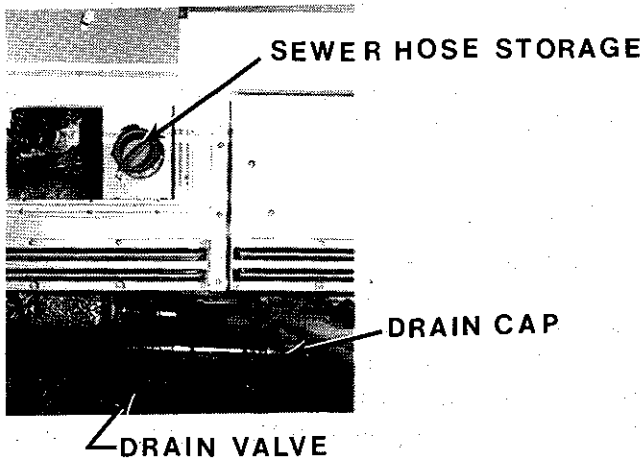

Figure 5-4. Location of Holding Tanks Drain Valve
2. Remove the safety cap from the single discharge connection by turning the locking ring in a counter-clockwise direction and connect the 3-inch sewer hose coupling to the end of the valve. Tighten locking ring securely, in a clockwise direction. The sewer hose is stored within a tube accessible through a compartment door located above the drain cap, figure 5-4. Place the discharge end of the hose into the sewer connection and check that all connections are secure to prevent accidental spillage.